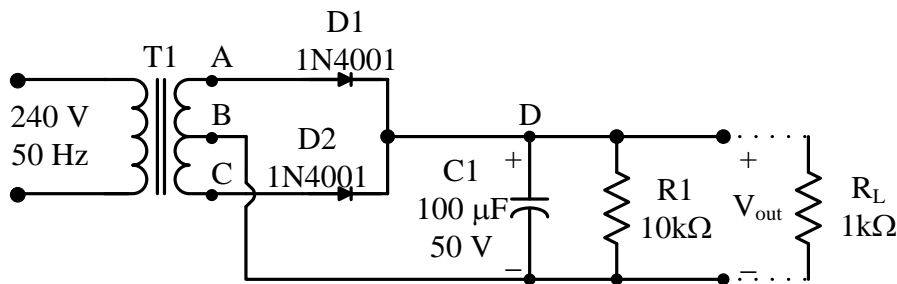

Figure 6-8: A full-wave rectifier with capacitor filter.
1. Connect the circuit of Figure 6-8 **without** the load R_L . Note, again, that capacitor C_1 has +/- polarity, and its terminals must be connected correctly.